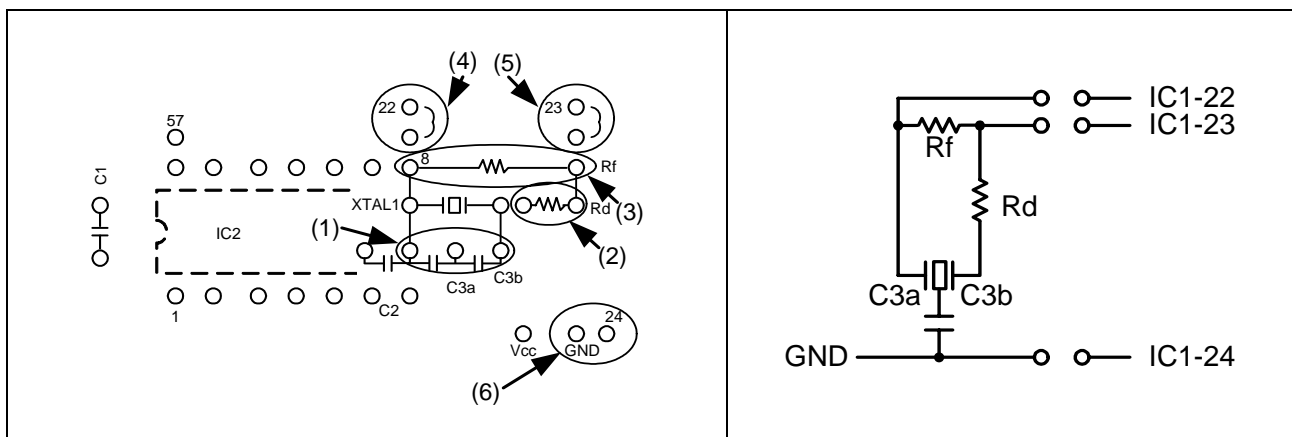

Figure 4 When using 3-pin type oscillator
(3) When using 3-pin type oscillator
When using a 3-pin type oscillator, follow the procedure below (see (1) to (6) in Figure 4).